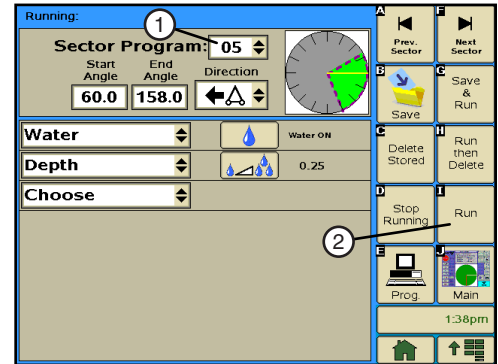

Figure 95-1 1. Program Number Field
1. Push **Prog**, **Sector Prog.** to view the Program screen. Refer to Figure 95-1.